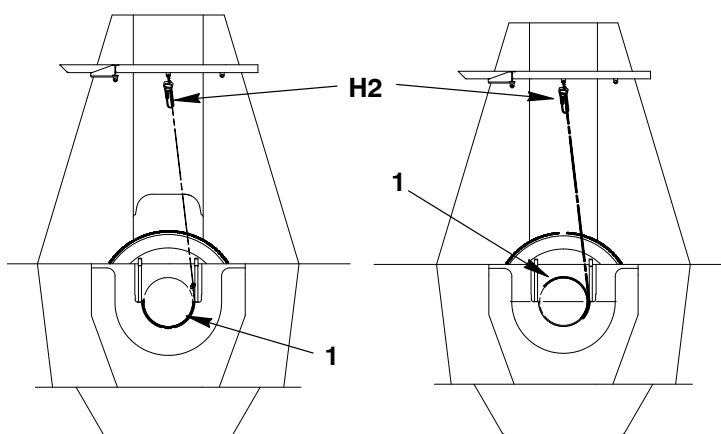
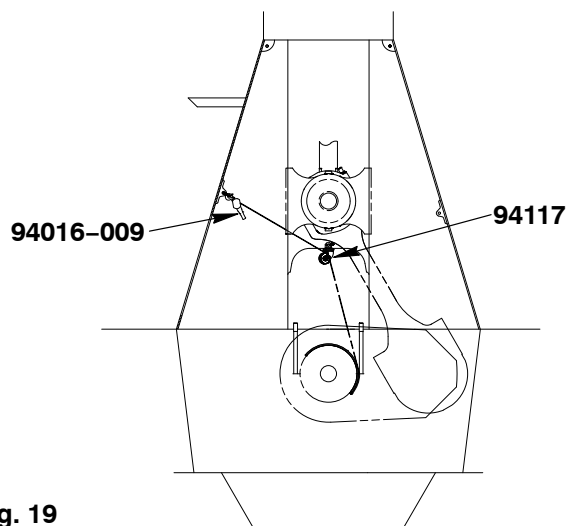

Fig. 15
Fig. 19
- 7) Operate the chain block (H2, Fig. 15) to turn the bearing shell (1) as shown in Fig. 18 and Fig. 19.
10) Operate the manual ratchet (H1, Fig. 19) to move the bottom bearing shell until the chain hook is adjacent to the roller support (94117).